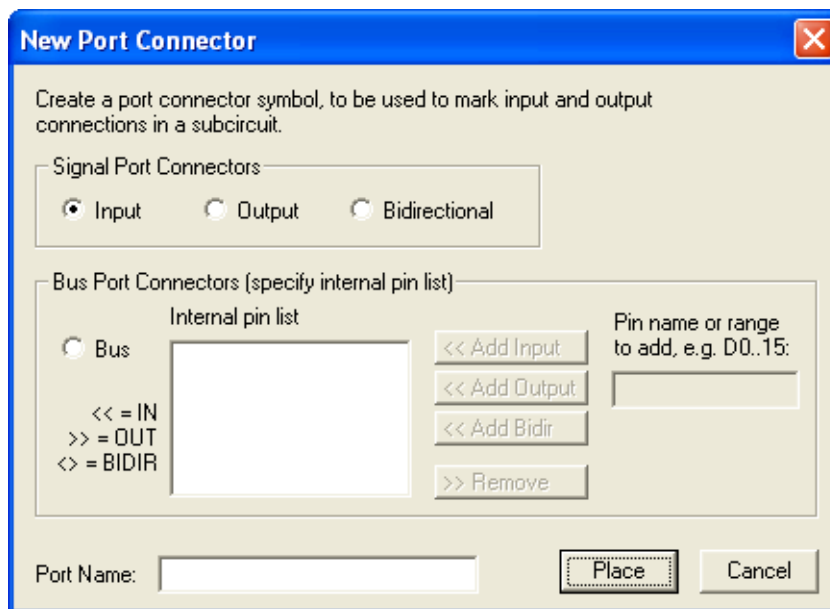

Figure 1
- d. To create port connectors: go to “Options” menu; choose “Subcircuit” → “New Port Connector”. A new window called “New Port Connector” appears, as shown in Figure 1.